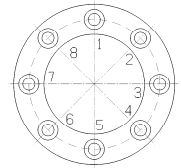

Figure 2
- 7** Check again if the torque of the screws is equal to the torque shown in the table by executing 2.5 revolutions clockwise (see Figure 2).